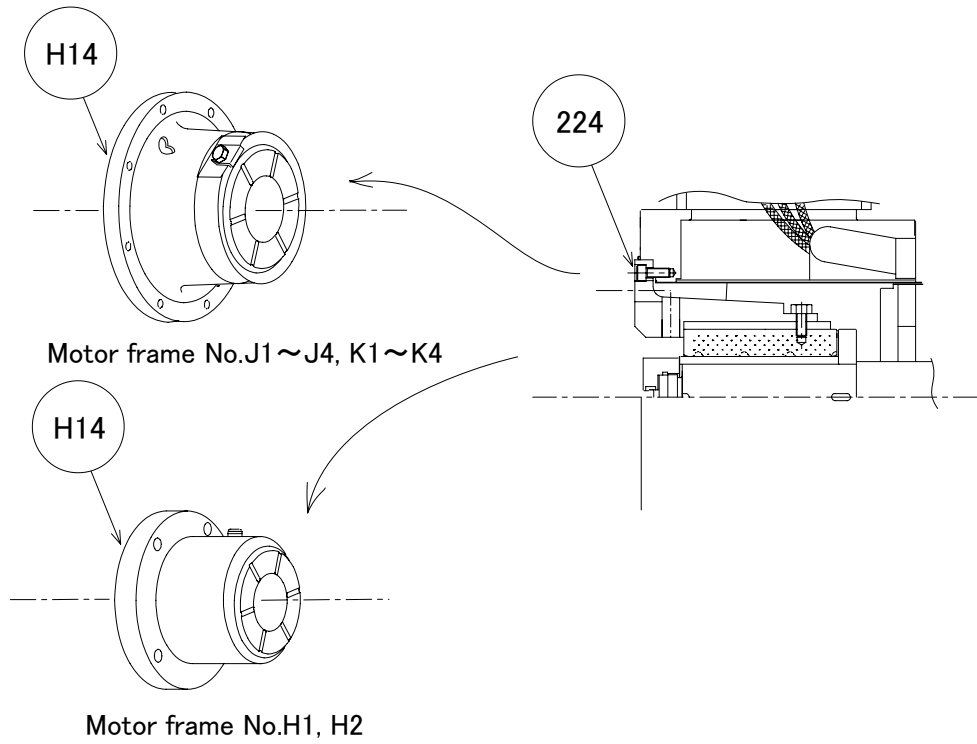

Fig.4-8 Removal of RB Housing
- (8) Removal of RB housing (Refer to Fig.4-8.)